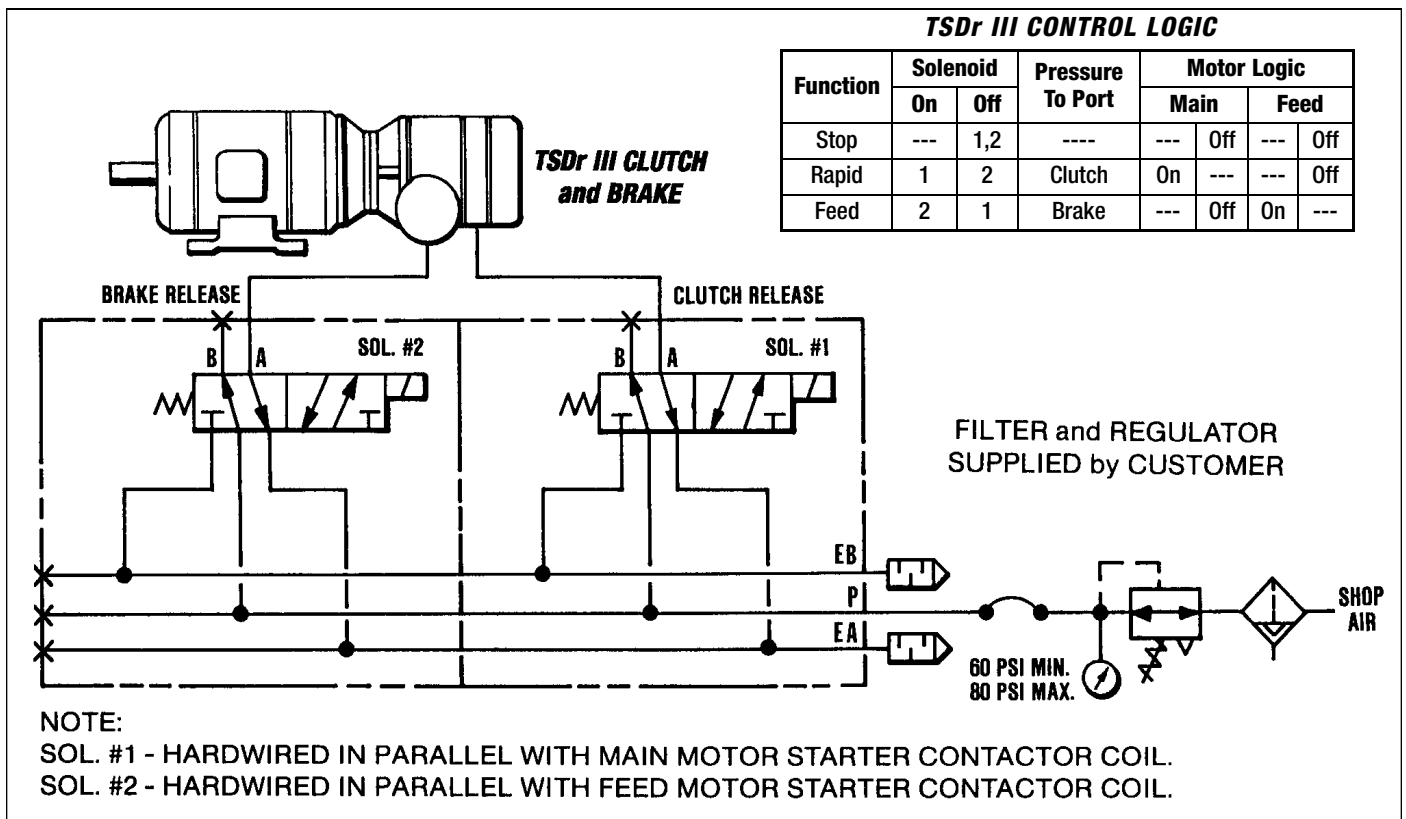

Figure 6.2 - Pneumatic Schematic
For the best actuation time, use at least 3/8" dia. tubing or hose for the air supply and mount the control valve as close to the drive as possible. Use of bottom ports and mounting the control valve lower than the unit will also eliminate any accumulation of condensation in the TSDr III unit See *Figure 6.2* for Pneumatic Schematic.
2. Recheck all air connections for tightness and check to see if they are correct as shown in *Figure 6.2* Pneumatic Schematic.